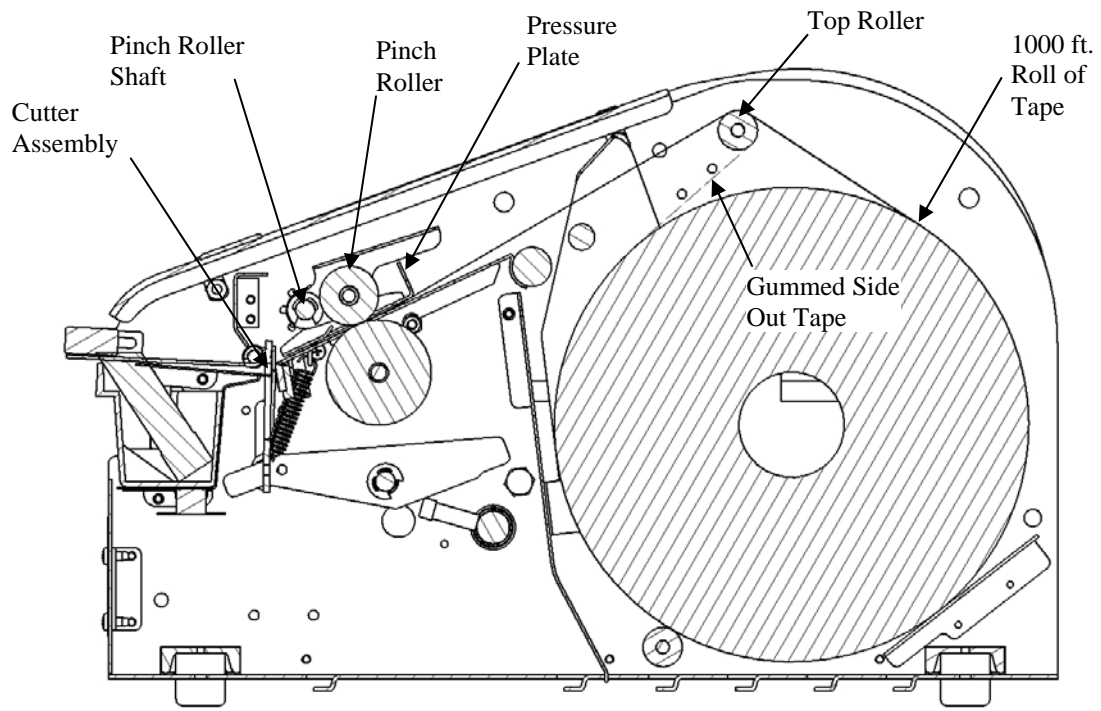

Figure 3 – Tape Routing
6. Feed the tape, gummed side down, over the top roller, under the tape guide flaps, and then under the pinch roller, see Figure 3.
3. Is the tape routed correctly?	Route the tape according to Figure 3 (p. 7).